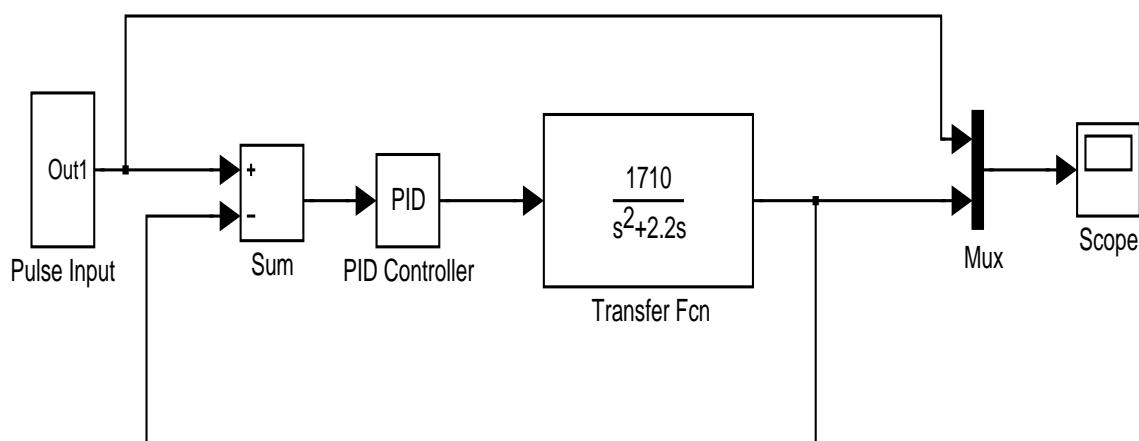

Figure 1: Simulink model of motor gear drive system
2) Model Building: Figure 1 shows a Simulink model which represents the motor gear system in the Controls Laboratory, with a PID controller implemented in feedback around it. Launch the simulink library browser from within Matlab by using the button or typing *simulink* (or *simulink3* for the older style which some people prefer). Then open a new model (using button or pull down menus), and build a copy of the above model. This is achieved by dragging components from the library to the model and connecting them using the mouse. Double clicking a box then allows you to edit the contents, such as entering values for the transfer function (as shown). For the PID block set the proportional gain to 0.05, and the integral and derivative gains to zero.